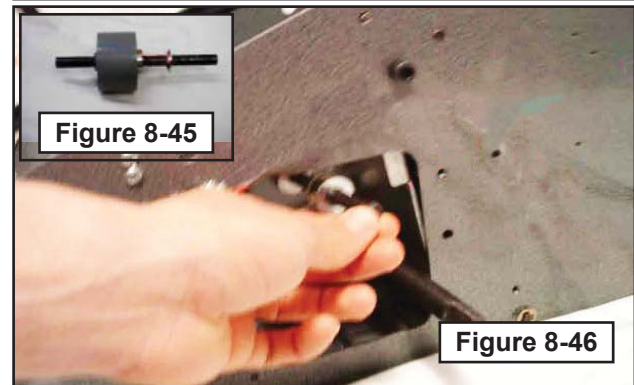

Figure 8-45
9. Attach e-clip and washer to new feed wheel shaft and insert back into dispenser (Figures 8-45 and 8-46).